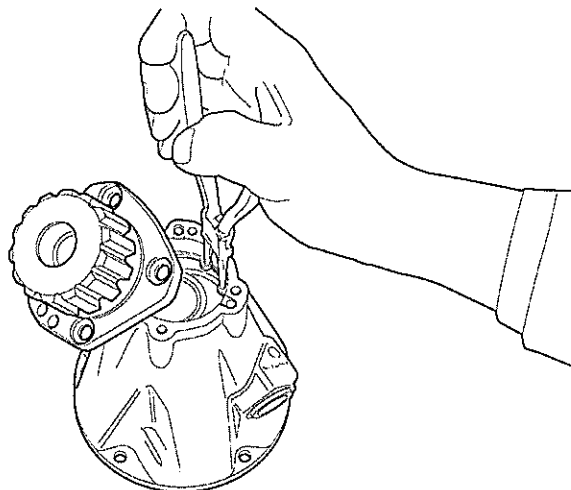

Fig 13 All wheel drive actuator housing assembly
- 25.6 Remove guide bolt securing actuator shaft and remove shaft with return spring (see Fig 13).